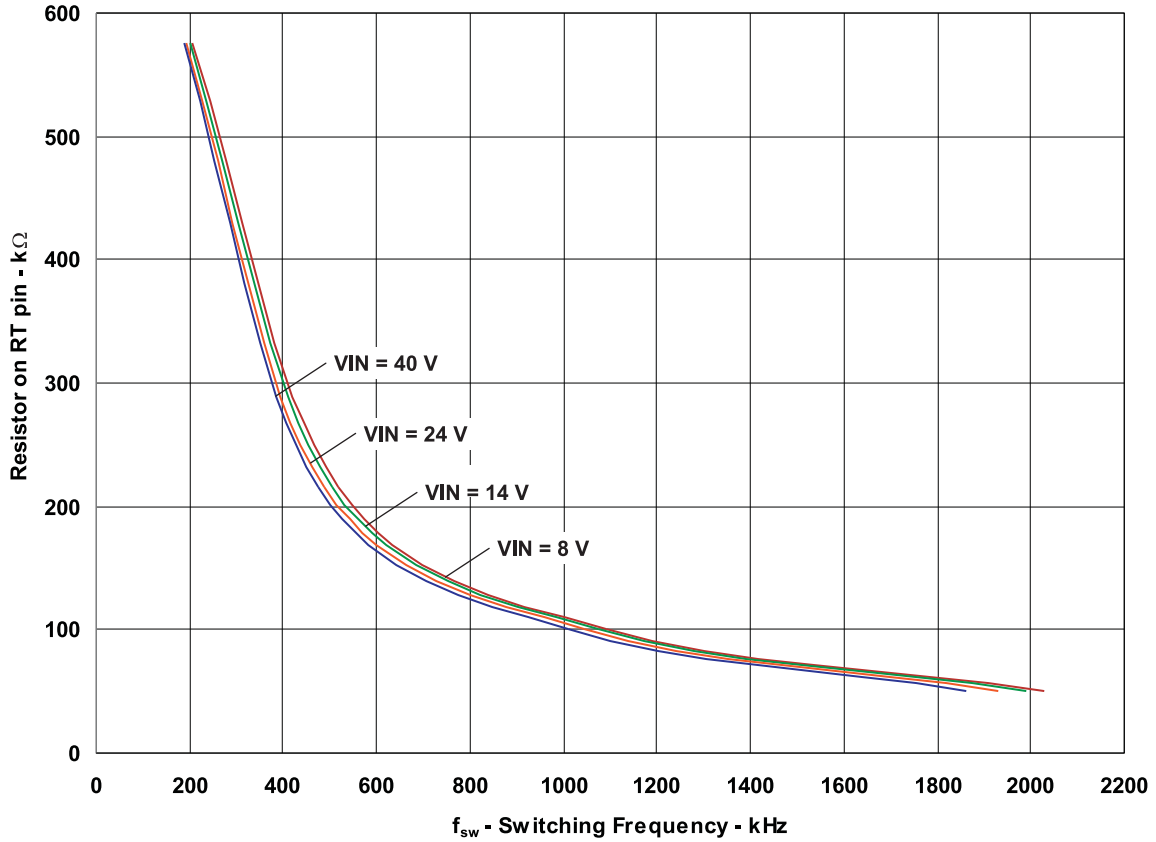

Figure 23. Switching Frequency vs Resistor Value
The oscillator frequency can be set by connecting an external resistor (R8 in Figure 4) to RT pin (pin 6) . Figure 23 shows the relation between the resistor value (RT) and switching frequency ( $f_{sw}$ ). The switching frequency can be set in the range 200 kHz to 2200 kHz. In addition, the switching frequency can be imposed externally by a clock signal ( $f_{ext}$ ) at the SYNC pin.
Knowing the switching frequency, the value of resistor to be connected at RT pin can be calculated using the graph shown in Figure 23.